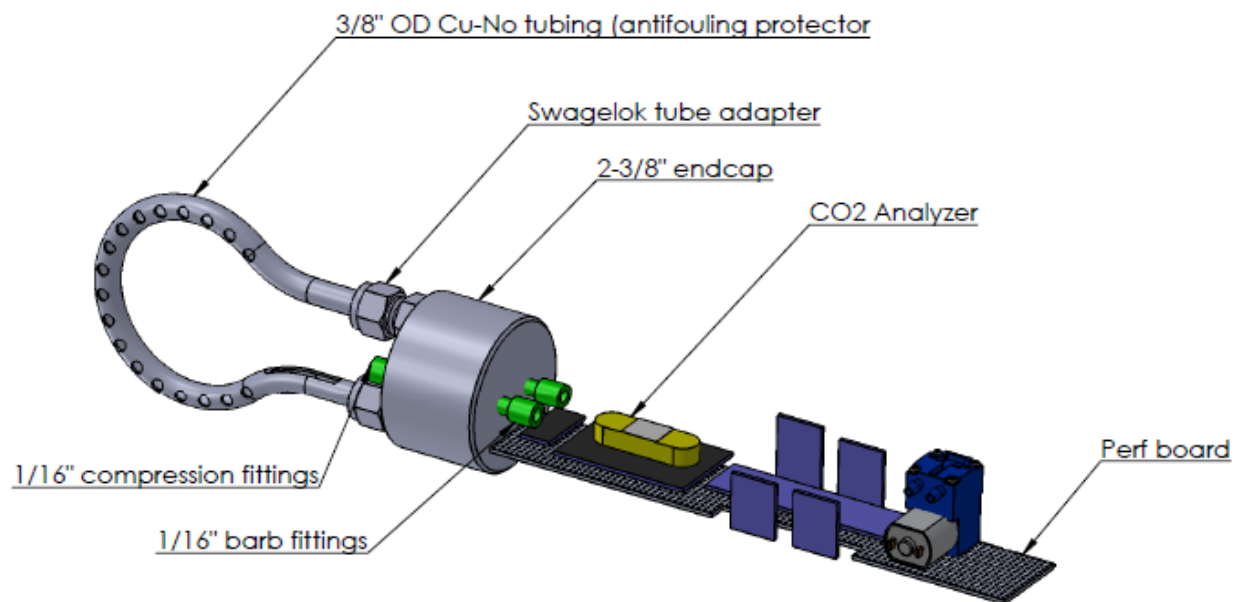
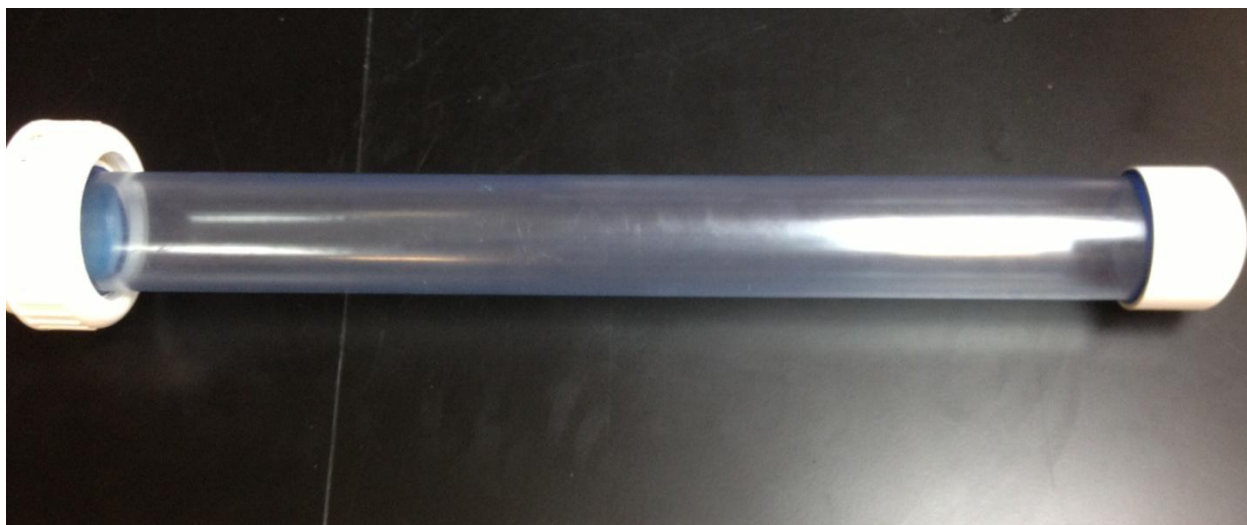

Figure 25 (Assembled endcap)
Figure 26(PVC tubing and PVC pipe union)
- **Sensor calibration and functionality:** The sensor calibration and functionality code is just used when the sensor wants to be calibrated, turn the ABC logic off, or test the functionality. In order to tell the sensor to do either calibration or turn off the ABC logic, some lines have to be commented or uncommented; this lines are shown in Figure 25. If the sensor has to be calibrated, the gas concentration has to be introduced. In the code the setup is to do it at 200 ppm. nevertheless, if the concentration has to be changed, the last two lines of the command shown in Figure 26 have to be changed into the number that was to be input in hexadecimal notation.
Example: The setup for the calibration is 200 ppm which is represented as 00C8 in hexadecimal; therefore the last two lines of Figure 26 are
If the number wants to be changed to 400, the hexadecimal representation would be: 0190; therefore, the last two lines of code in Figure 26 would be as follows: